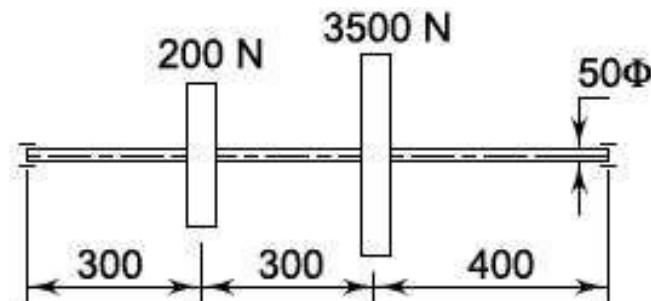

Figure 7.3
8. A steel shaft carrying two weights of 200 and 3500 N is shown in Fig.7.3 Neglect the weight of the shaft and estimate the first critical speed of the shaft. ($E = 207000 \text{ N/mm}^2$).